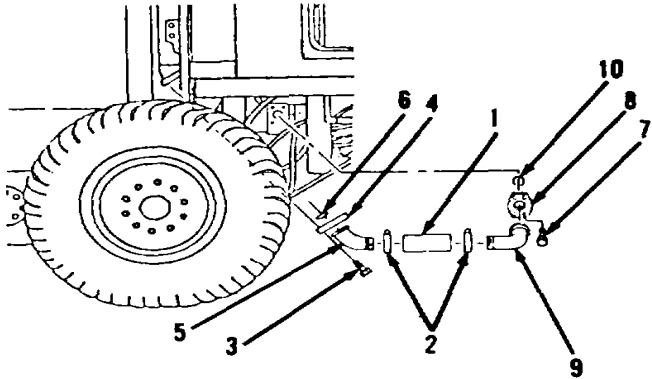

Figure 10-166.
- 1. Loosen two clamps (2, Figure 10-166).